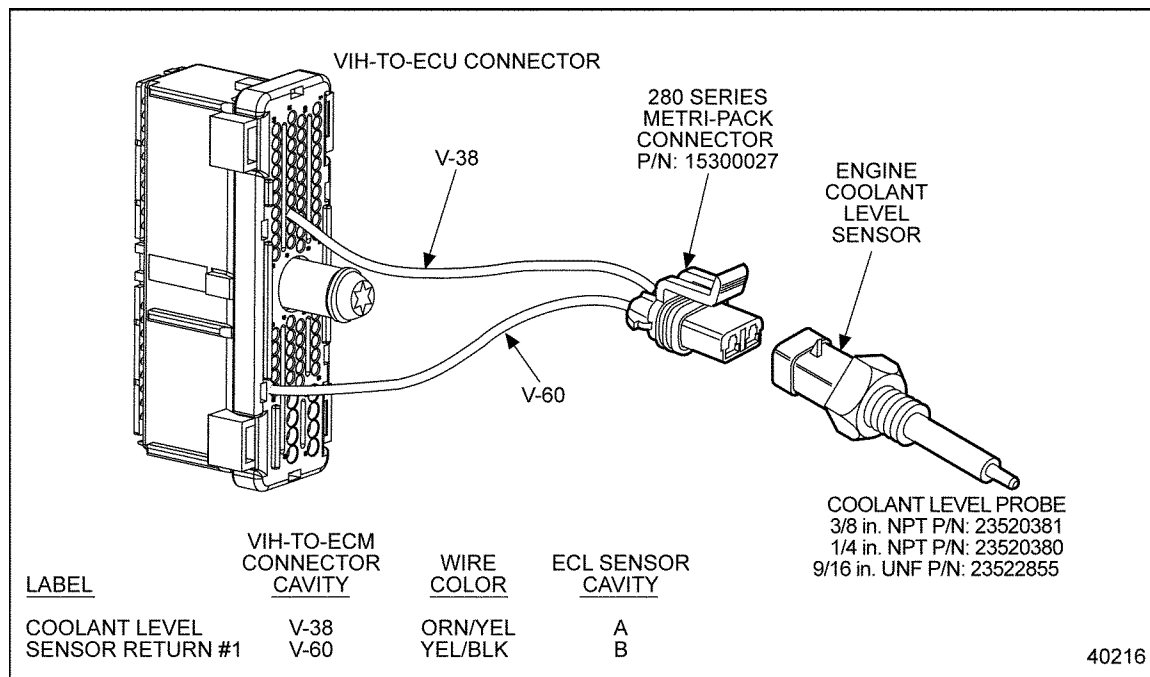

Figure 25-2 Engine Coolant Level Sensor and Circuits
4. Measure voltage at cavity V-38 of the CLS/ECL Sensor connector and battery ground. See Figure 25-2.